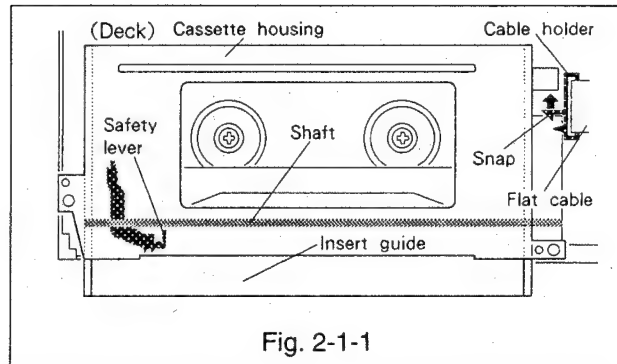

Fig. 2-1-1
2-1-1 Removal(Refer to Fig. 2-1-1~2-1-2.)
- Unfasten the snap of the cable holder and remove the cable holder from the cassette housing as shown in Fig.2-1-1.
2-1-2 Installation(Refer to Fig.2-1-1~2-1-3.)
- Slowly lower the cassette housing onto the main plate of the deck so that the safety lever enters between the insert guide and the shaft as shown in Fig. 2-1-1. Align the two positioning holes(e, f) and the two U holes(g, h) located on the cassette housing with the matching holes in the deck.